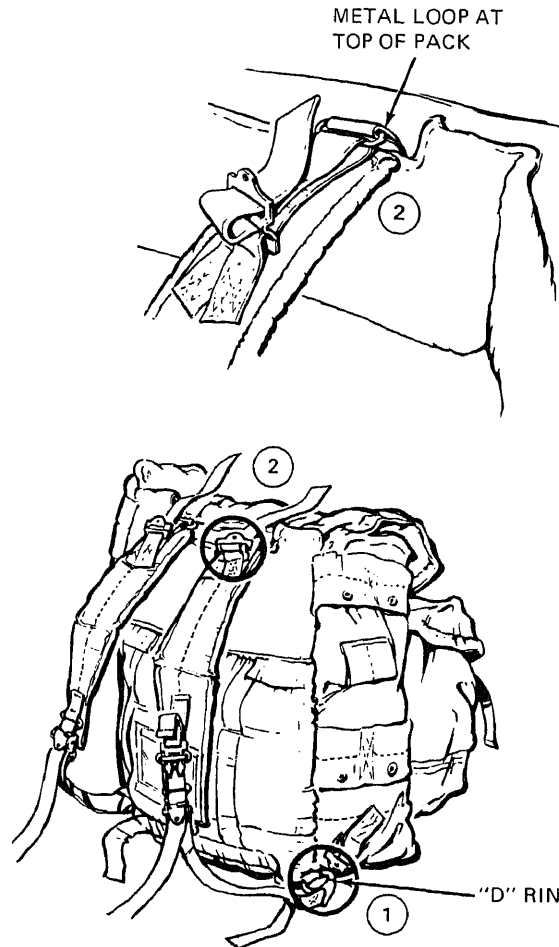

Figure 2-15.—Attaching shoulder straps to medium pack.
The medium pack is often carried using the shoulder straps without the pack frame, as shown in figure 2-15.
the strap loop and pull it tight. (See fig. 2-15, view 1.)
2. Insert the webbing at the top of the strap through the metal loop on the top of the pack and pull it tight. (See fig. 2-15, view 2.)